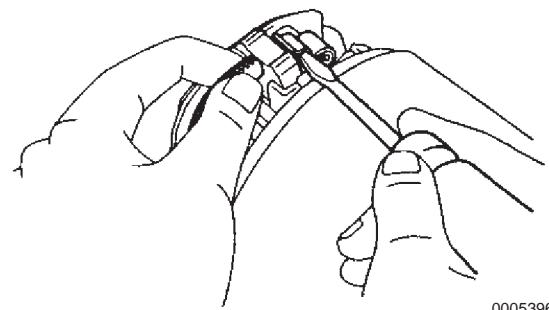

Figure 10-9
7. Secure the rear of the spring tang using a screwdriver (Figure 10-9) and remove the brush from the brush holder. Remove the 4 brushes and then the brush holder.